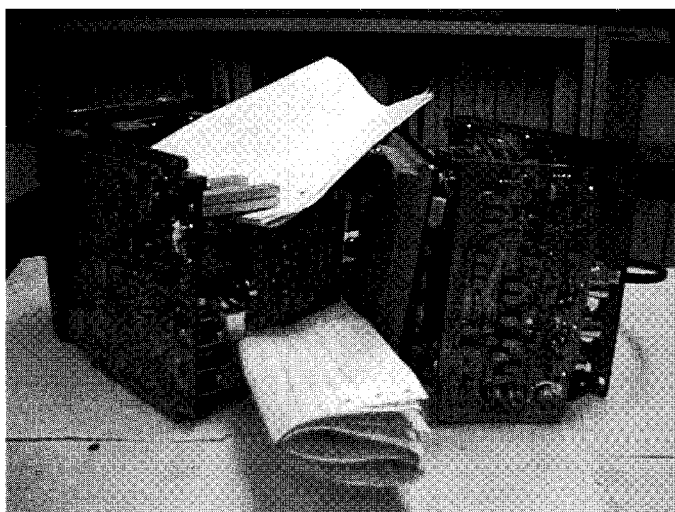

Fig.20
2. Inspect as indicated in Fig. 20. (Insert paper to avoid shorting.)